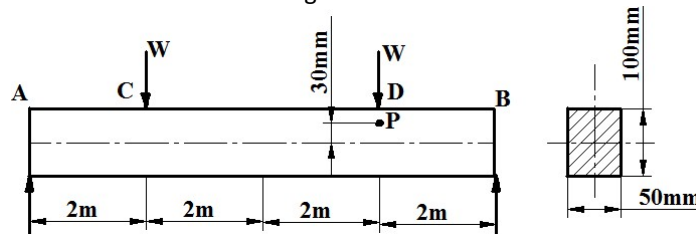

Figure 38
19. When a simply supported beam is subjected to the loads as shown in the **Figure 38**. The longitudinal strain induced at a point P is found to be  $500 \times 10^{-6}$ . Determine the magnitude of  $W$ . Take  $E=200\text{GPa}$ .